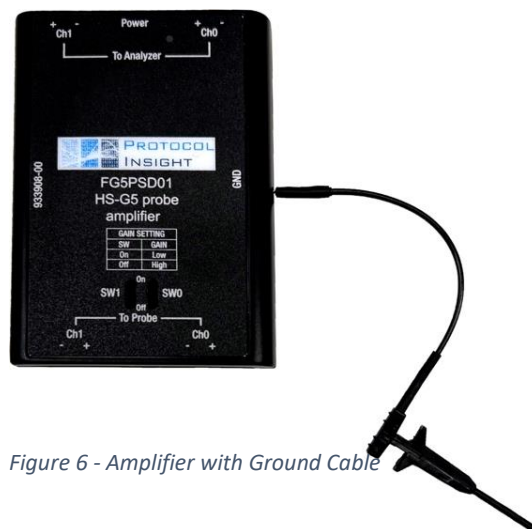

Figure 6 - Amplifier with Ground Cable
1. Connect the plug of the ground lead to the receptacle on the side of the amplifier body (marked GND), refer to Figure 6.